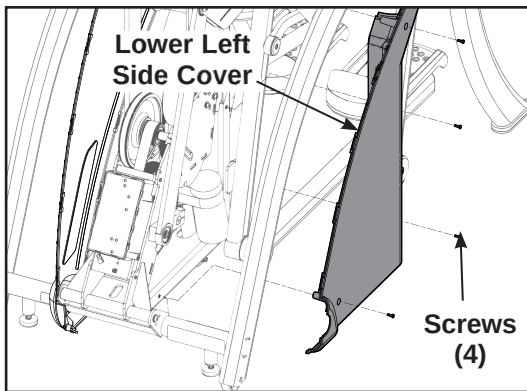

Figure 8
- A. Using a Phillips head screwdriver, remove the four screws securing each of the lower side covers. See Figure 8.